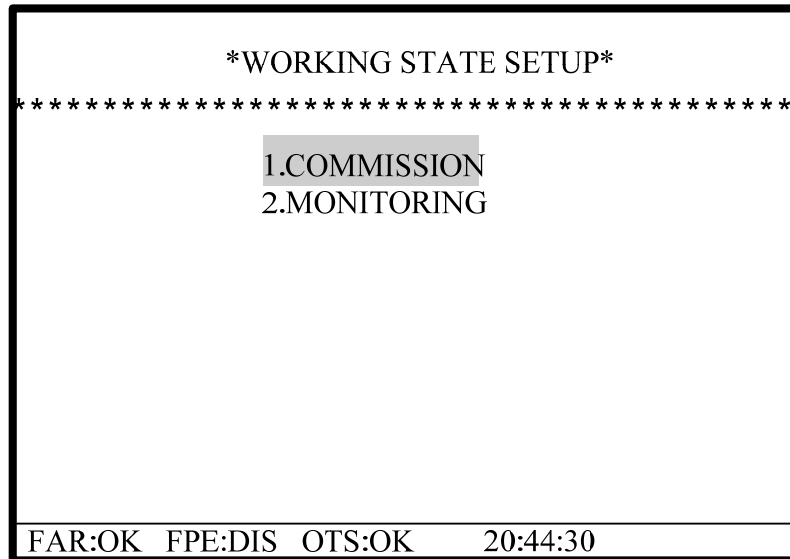

Fig. 4-9
Step 1: Set the FACP into commission state. Press *SYSTEM SETUP* and enter system setup menu. Choose "3 WORKING STATE SETUP", you can then set the FACP as commission or monitoring state (Fig. 4-9).